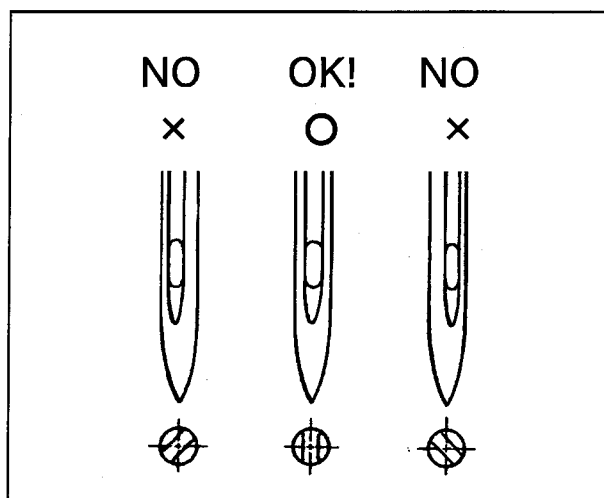

Fig.15
- (1) Turn the machine pulley frontward by hand and raise the needle bar ① to the highest position.
- (2) Loosen the screw ②.
- (3) Remove the old needle.
- (4) Insert a new needle into the installation hole as far as it will go. Be sure that the needles long groove comes front. (Fig.15)
- (5) Tighten the screw ② securely.